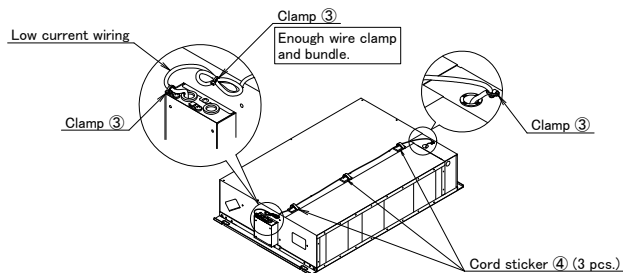

Figure 1
2. Secure the wiring with the cord stickers (4) (3 pcs.) and clamps (3) (total 3 pcs.). (Refer to Figure 1)
3. Cut off excess portions of the clamps (3).